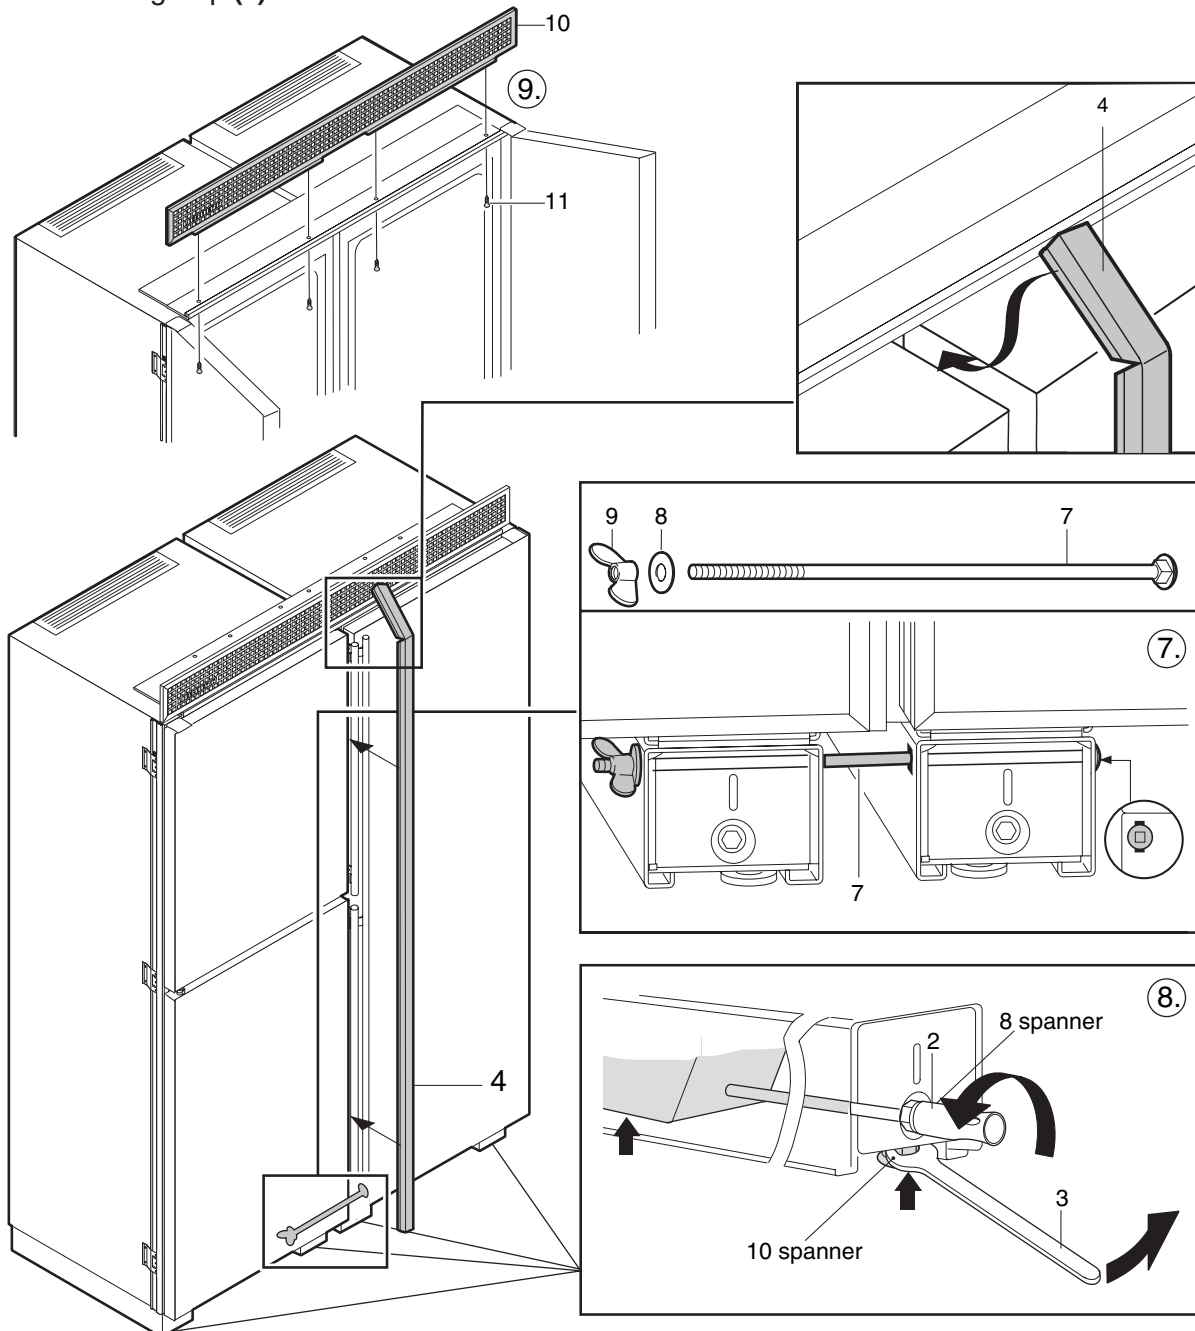

Figure 27
7. **Figure 27:** Push the long carriage bolt M5x260 (7) through the leveling wheels as shown. Fit in a washer (8). Screw on the wing nut (9) and tighten it *manually*. Do not overtighten.
9. Secure the ventilation grille (10) to the appliance with screws (11).